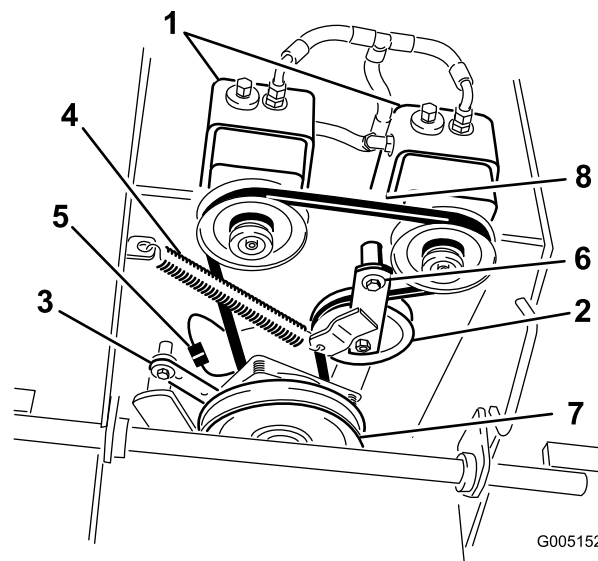

Figure 50
6. Disconnect the clutch retainer from the engine deck (Figure 50).
7. Unhook the idler spring from the frame (Figure 50).
9. Install the idler spring between idler arm and frame bracket (Figure 50).
10. Install the clutch retainer to the engine deck (Figure 50).